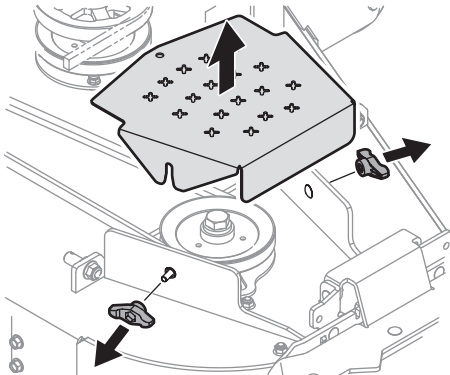

Fig. 29
- Clean the top of the mower deck, under the spindle covers and belt area (Fig. 29).